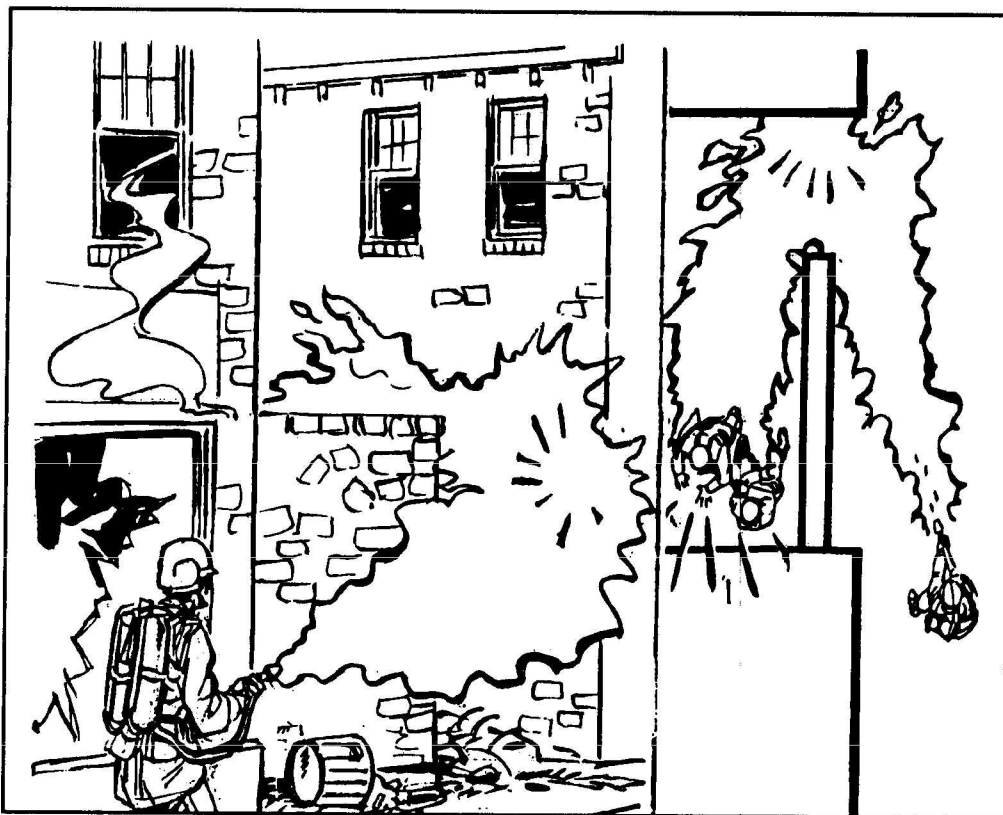

Figure 8-14. Blind-angle burst.
(3) *M2A1-7 Portable flamethrower.* Portable flamethrowers have a much shorter effective range than the M202 (20 to 50 meters) but require no special backblast consideration. The psychological and physical effects of the portable flamethrower are impressive. When used against troops behind a street barricade, the flamethrower can be fired in a traversing burst to cover a wide frontage. A blind-angle burst can be fired to exploit the splattering effect of the thickened fuel without exposing the gunner (see Figure 8-14, page 8-26).